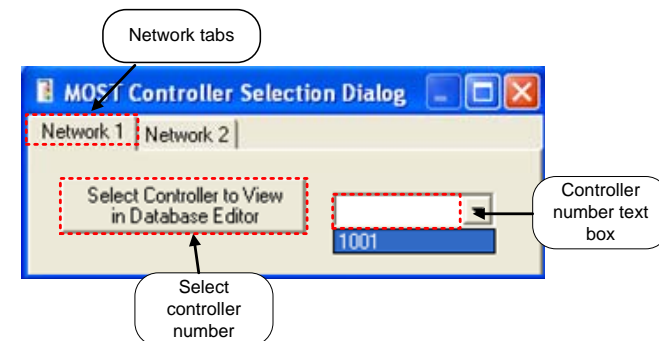

Figure 23 Controller Selection Dialog
- The Controller Selection Dialog appears as in Figure 23. Select the "Network 1" tab in the dialog box.